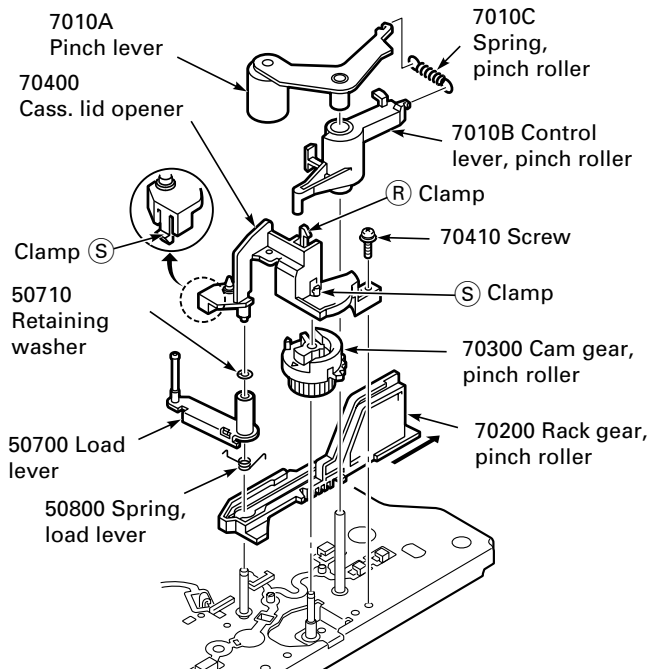

Fig. 8.29
- Unhook the pinch roller spring (Pos. 7010C) and remove the pinch roller lever (Pos. 7010A, Fig. 8.29).
- Disengage the clamp (R) of the cassette lid opener (Pos. 70400) and remove the pinch roller control lever (Pos. 7010B, Fig. 8.29).
- Undo the screw (Pos. 70410), disengage the two clamps (S) and remove the cassette lid opener (Pos. 70400, Fig. 8.29).
- Pull off the pinch roller cam gear (Pos. 70300, Fig. 8.29).
- Remove the retaining washer (Pos. 50710), remove the load lever (Pos. 50700) and the load lever spring (Pos. 50800, Fig. 8.29).
- Slide the pinch roller rack gear (Pos. 70200) fully backwards and remove it (Fig. 8.29).